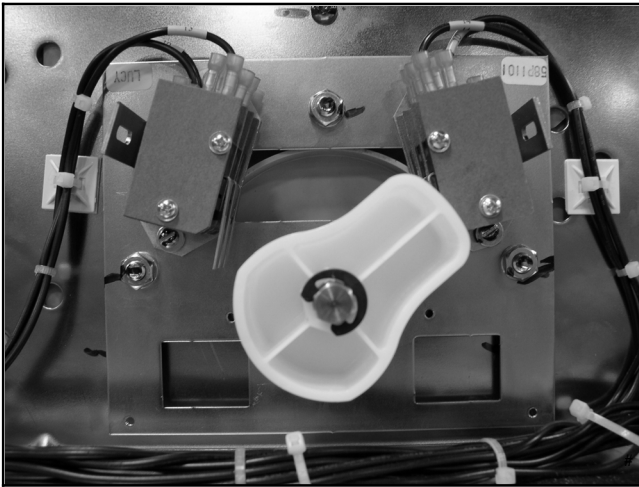

Figure 7-56 Microswitches
5. Note the location of the fast-on connectors to the microswitch terminals. See Figure 7-56.